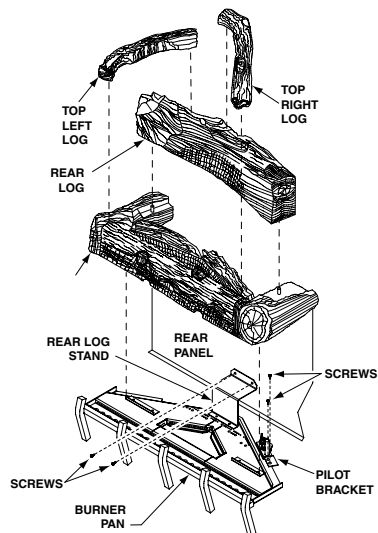

Figure 4 - Removing Logs and Burner Assembly
1. Remove top, rear and base logs. See **Figure 4**.
2. Remove two screws holding the pilot bracket to rear of the burner pan. (see **Figure 4**).
3. Remove two screws holding the rear log stand to the rear panel of the firebox (see **Figure 4**).